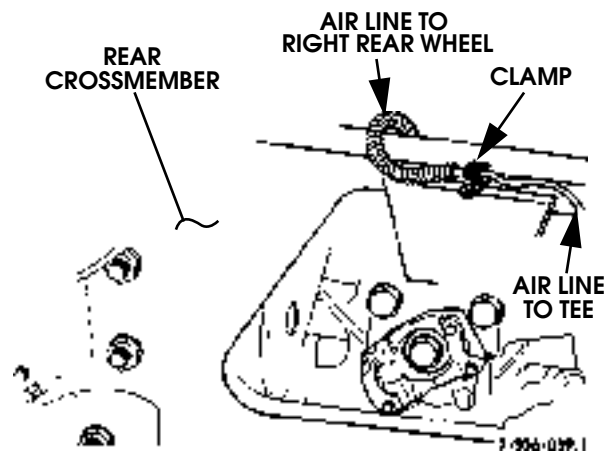

Figure 6-72: Right Rear Line Routing Over Rear Crossmember
3. If working on right rear line, remove clamp over crossmember to remove line (Figure 6-72).
7. If working on right rear line, secure line to crossmember with clamp (Figure 6-72).